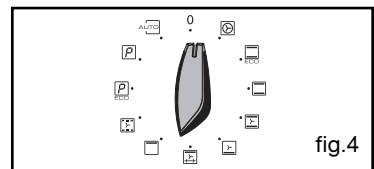

fig.4
- If necessary, remove the door's inner glass assembly. This assembly is composed of one or two sheets of glass (depending on model), each of which has a black rubber corner pad (fig.4).
Rotate the function selector to the 0 position (fig.4).